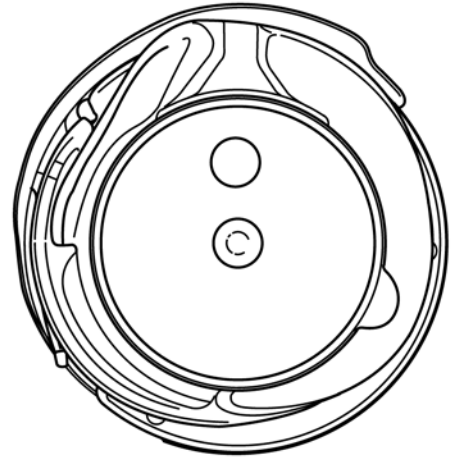

Fig. 70
- Remove the bobbin case base with sewing hook gib (fig. 70).